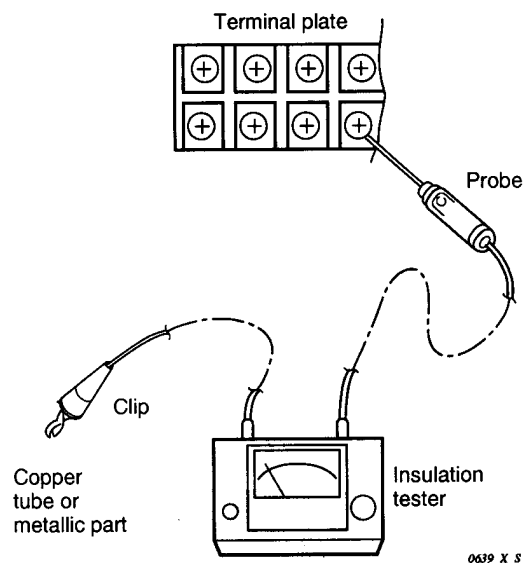
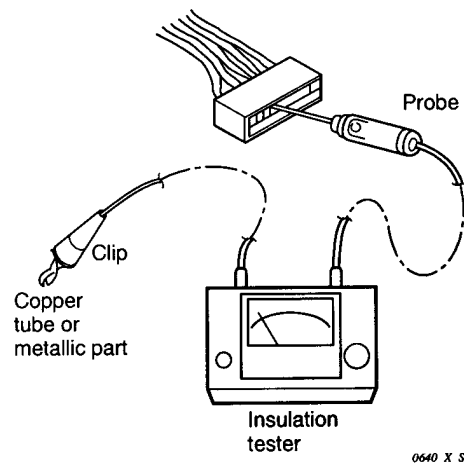

Fig. 6
Fig. 7
Clamp an aluminum plate fin or copper tube with the lead clip of the insulation resistance tester and measure the resistance by placing a probe on the terminal plate (Fig. 6)
③ Outdoor Unit
Measure the resistance by placing a probe on the terminal plate in the same manner as explained above ②. (Fig. 6)
④ Measurement of Insulation Resistance for Electrical parts
- Disconnect the connector of the desired electric part from terminal plate, P.C.B. Ass'y, etc. (Fig. 7)